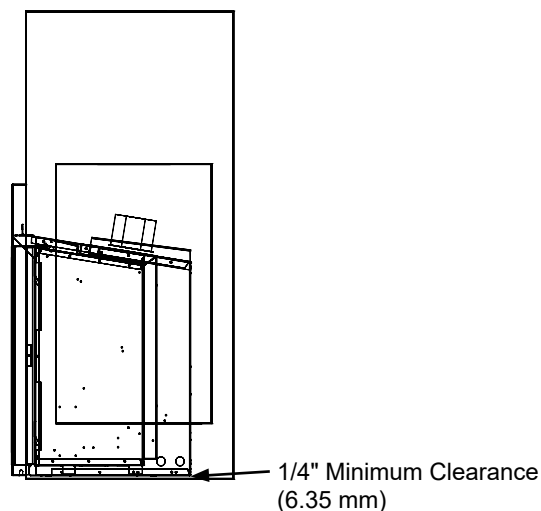

Figure 9.1.02: Removing the Metal Floor
Was a 1/4" (6.35 mm) minimum clearance maintained as shown in Figure 9.1.02 ?
The metal floor (J) may be removed to allow additional room for installation of the insert as long as it does not compromise the structural integrity of the existing fireplace and you maintain a mandatory minimum 1/4" clearance between the bottom of the insert and the bottom shell of the existing fireplace. This may be achieved by using strips of noncombustible material or by using leveling bolts on the insert (See **Figure 9.1.02**). If the floor is removed the insert must be placed directly on the metal base of the metal fireplace. **Under no circumstance can it be placed directly on a combustible material.**